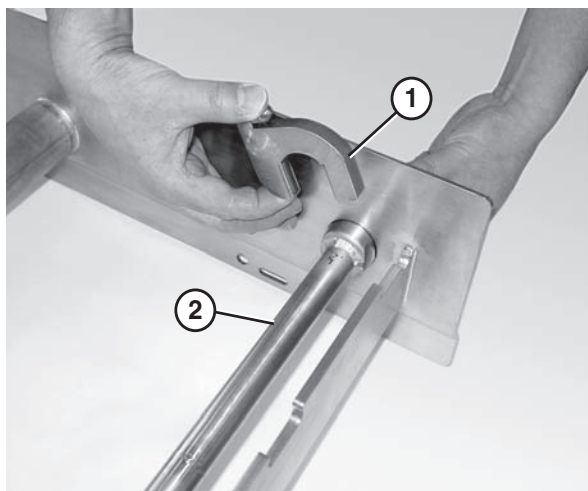

Figure 12
- Attach the key stops (**Figure 12, item 1**) to the tip up shaft (**Figure 12, item 2**). The rounded end of the key stop should face the tail.